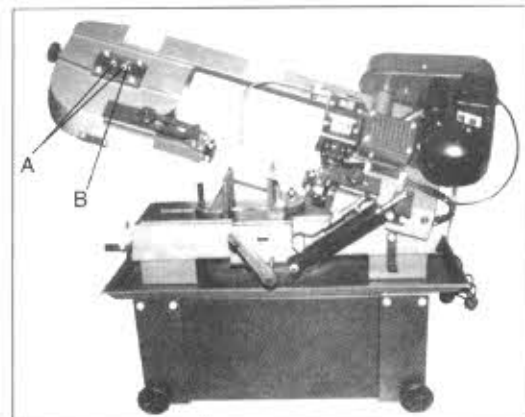

Fig.13
5. Loosen bolts (A, Fig. 13).
6. Turn set screw (B) while observing blade tracking on wheel. Turn set screw clockwise to track blade closer to the wheel flange. Turn set screw counter-clockwise to track blade away from the wheel flange.
7. Once tracking is set, tighten bolts (A).